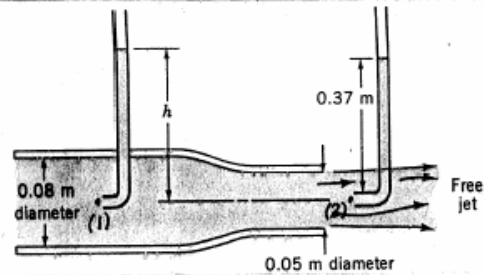

FIGURE P3.66
3.66 Determine the manometer reading, h , for the flow shown in Fig. P3.66.